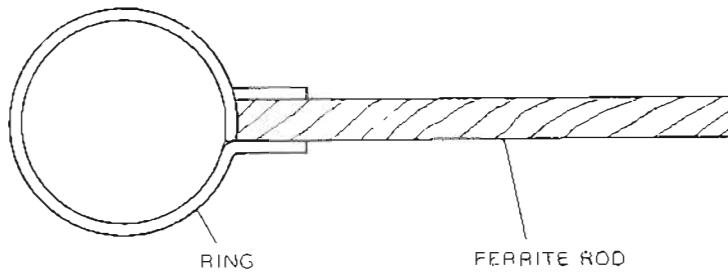

Fig. 6
- (2) To check tracking errors, use a jig made up of a copper wire ring and ferrite rod (see Fig. 6). Bring the ring and the ferrite rod alternately close to the ANT Coil and confirm that the sweep waveform is minimized.